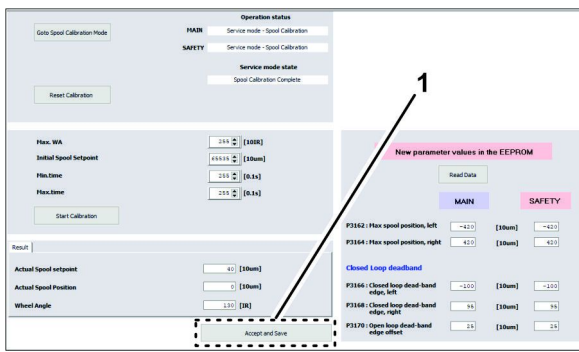

Figure 52
5. At the bottom of the spool calibration screen, click the ACCEPT AND SAVE icon (Figure 52).